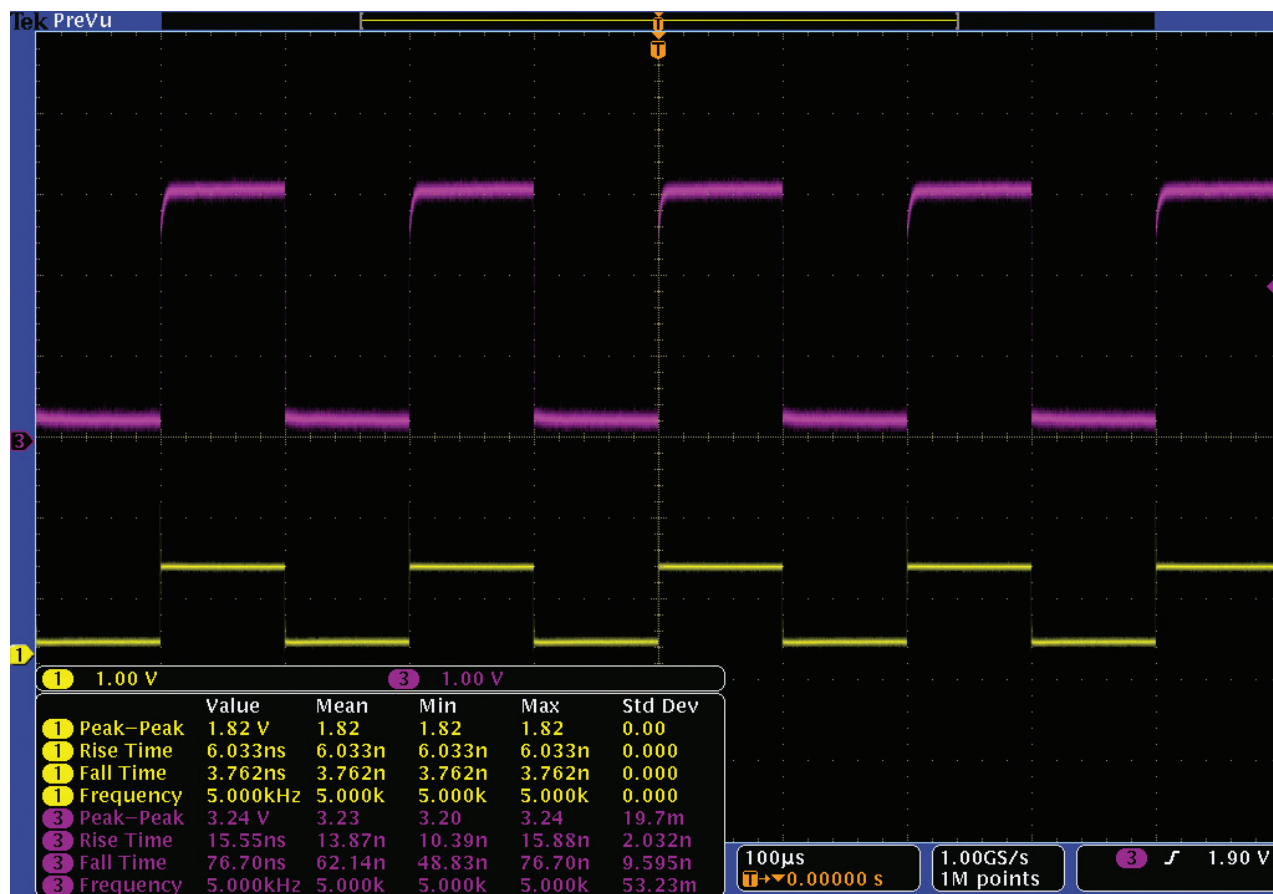

Figure 7: NTS0102 driving a load of 70 pF and 50 Ω
The maximum lumped capacitive load that can be driven depends on the one-shot pulse duration. In cases with very heavy capacitive loading, there is a risk that the output will not reach the positive rail within the one-shot pulse duration. Capacitive loads up to 150 pF can be driven without any issues using NTS level shifters. **Figure 7** shows the yellow input waveform and purple output waveform for an NTS0102 driving a load of 70 pF and 50 Ω . A supply voltage of 1.8 V is used for the VCC(A) rail and a supply voltage of 3.3 V is used for the VCC(B) rail. A 1.8 V input signal with a 50 kHz frequency is used, and output swings up to approximately 3.24 V.